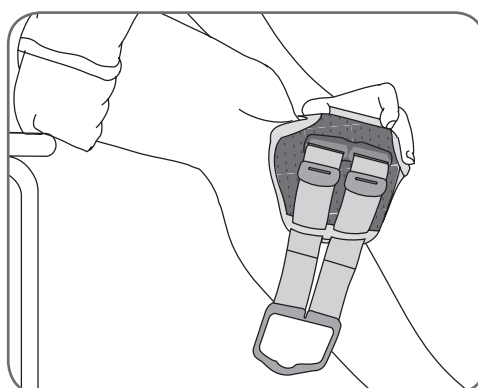

Figure 8-17: Tilting the L300 FS Cuff.
1. Have the patient tilt the top of the L300 FS Cuff toward the leg, and slide the locator up the leg until it rests just under the patella. See Figure 8-17.